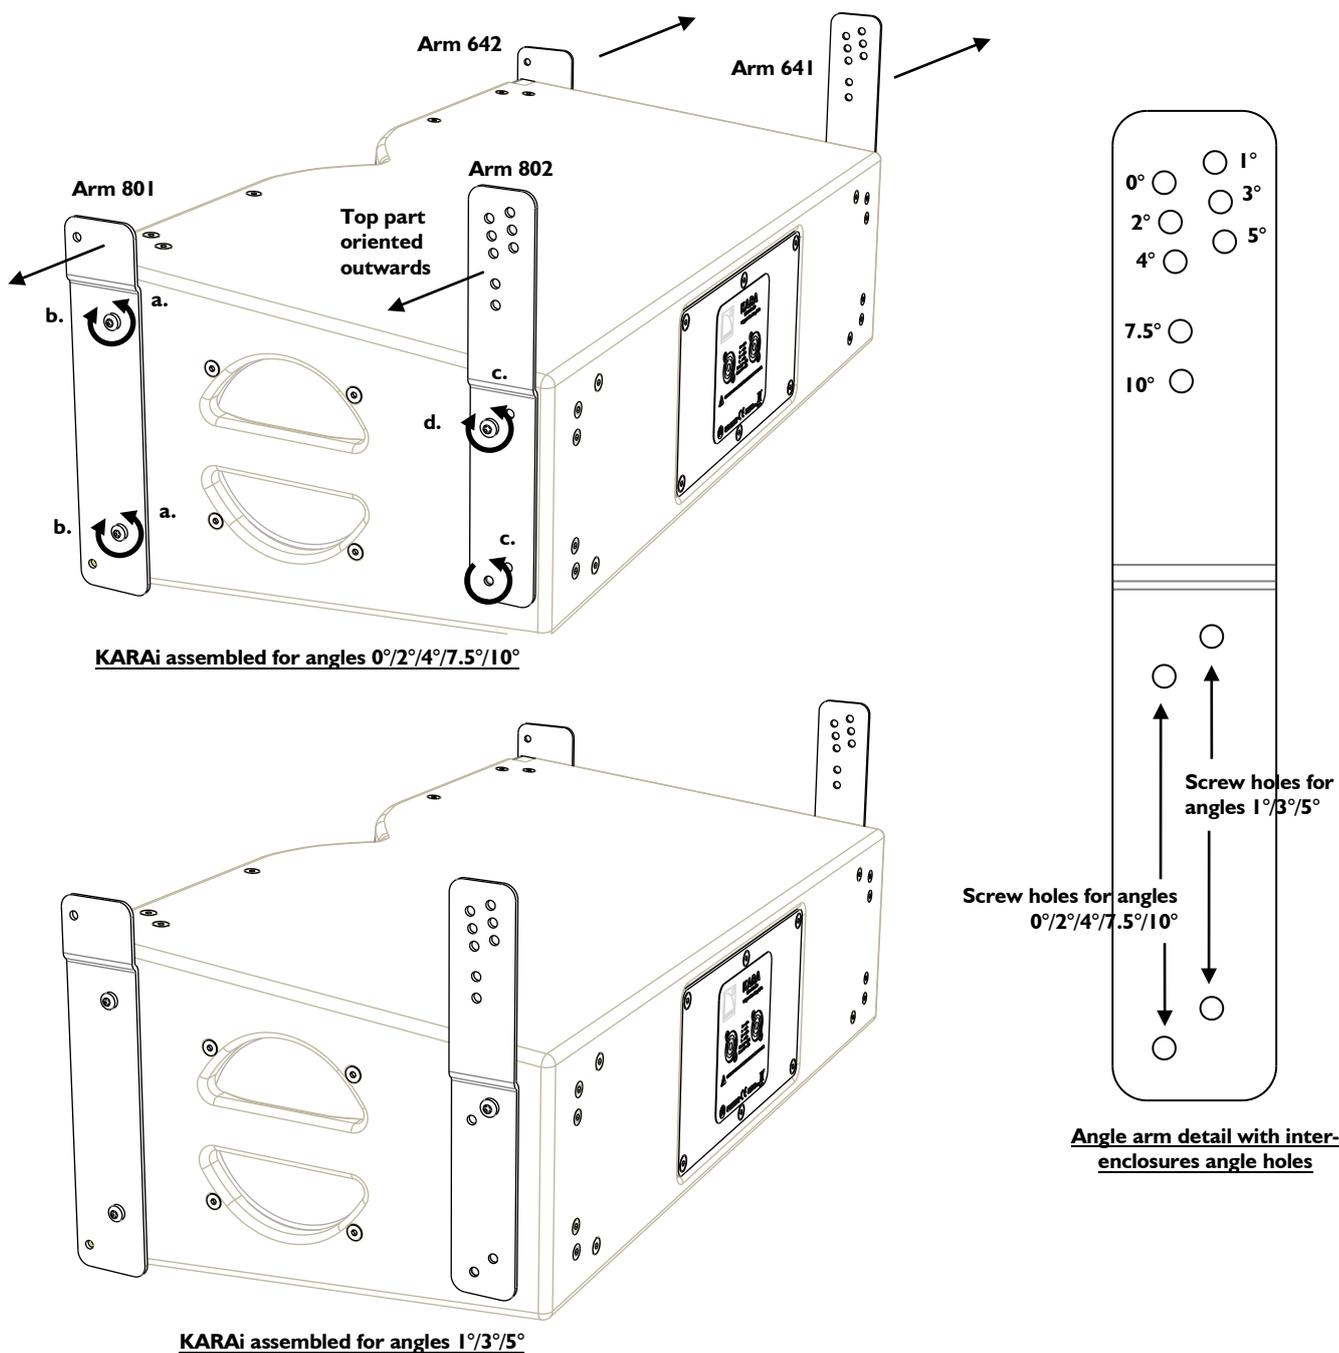
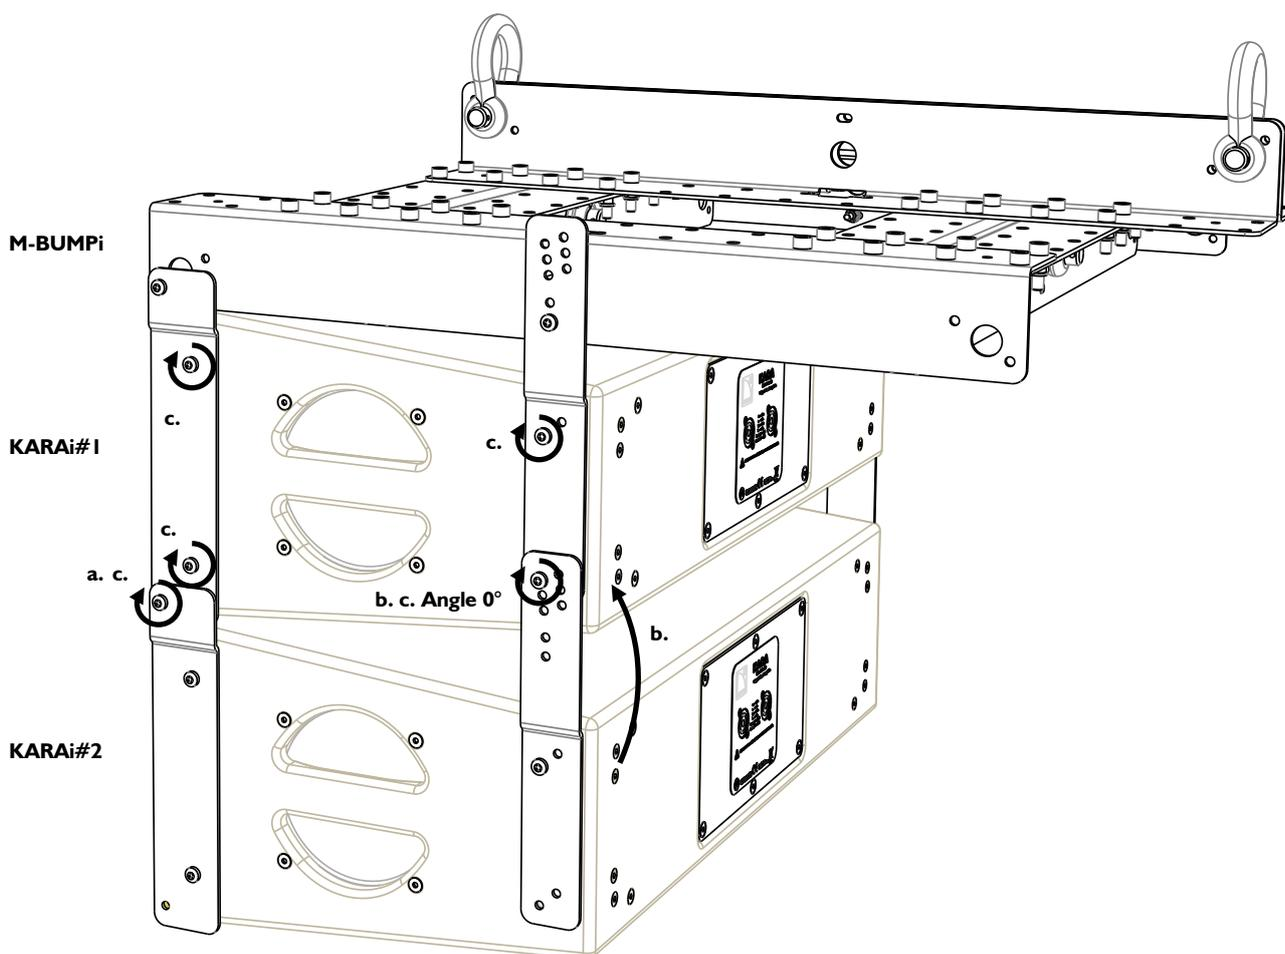

Figure 6: Mounting four arms to a KARAI
Figure 8: Attaching KARAi#2 to KARAi#1
- d. Position the appropriate angle arm and slightly drive the **top rear screw only**. The position of the arm depends on the angle intended to be set, as shown in Figure 6. **Note:** It is recommended to select the 10° angle on the KARAI intended to be fixed to the M-BUMPi. In that way, the KARAI axis will be parallel to the M-BUMPi.
The angles values corresponding to the different holes are detailed in Figure 6.
On both angle arms, select the holes corresponding to the angle intended to be set (refer to Figure 6). Figure 8 shows the example of angle 0° (KARAi#1 and KARAi#2 front faces parallel).